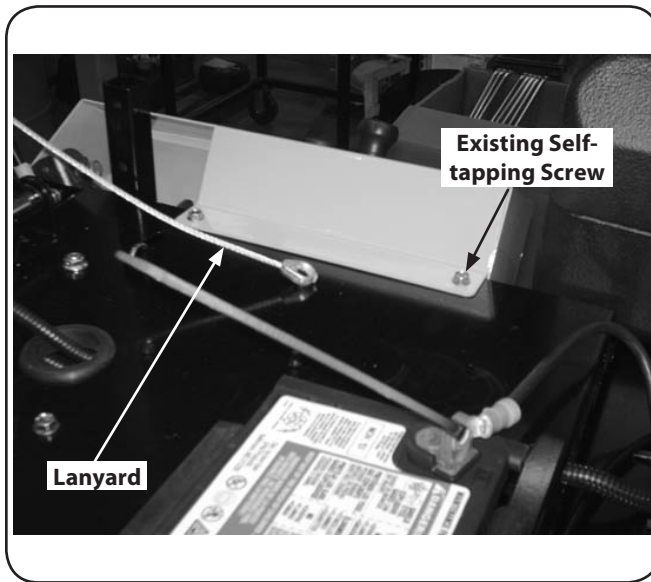

Figure 3-4
4. Install lanyard using existing self-tapping screw. See Figure 3-4.